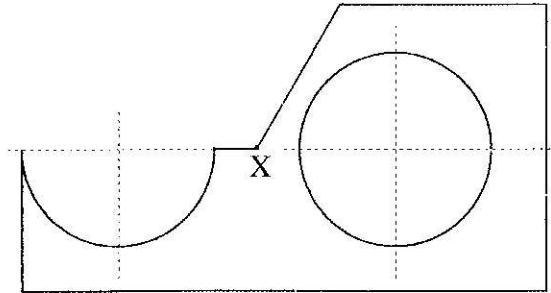

Figure 2
- (b) For the template shown in **Figure 2**.